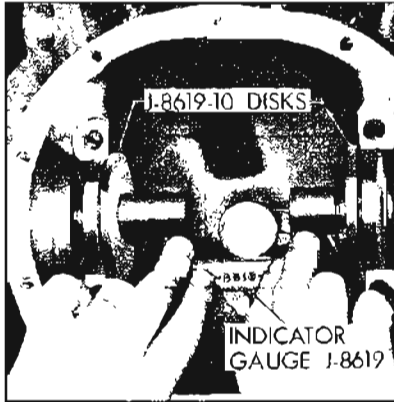

Figure 6-22—Checking Pinion Depth
8. Make certain differential bearing support bores are free of burrs. Install indicator gauge in carrier so that small diameter outer portion of disks rest in differential bearing pedestal support bores. Spring loaded center of gauge must be located in centering hole of gauge plate, and contact button of dial indicator must be positioned to bear against outer edge of gauge plate top surface. See Figure 6-22.